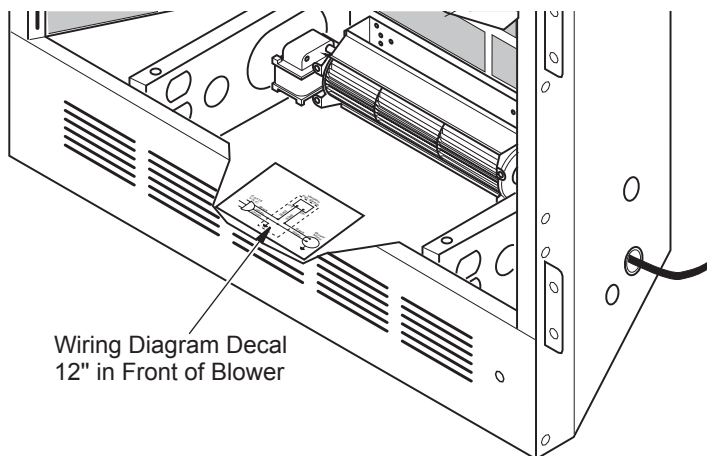

Figure 10: Location of Wiring Diagram Decal (Model May Vary From Illustration)
6. Peel off the backing paper and stick the supplied wiring diagram decal on the firebox bottom approximately 12" in front of the blower (see Figure 10).